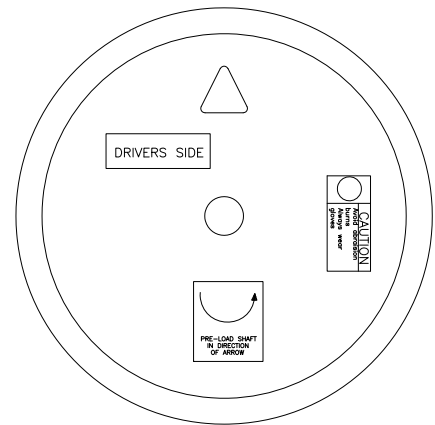

figure 19
- J. Install the WINDING DISK (*figure 19*) onto the DRIVERS side roller shaft and tighten the setscrews. Remove the 3/8 bolt from the arm and shaft. Turn the WINDING DISK 7 revolutions in a counterclockwise direction as viewed from the driver's side. FOLLOW THE DECALS ON THE ARM and DISK.